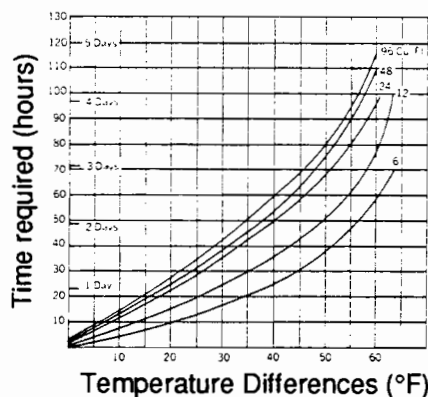

Figure 1-2. Paper Temperature Equalizing
- If there is a significant temperature difference between the paper storage area and the printer's operating environment, paper should be allowed to adjust to the temperature in the printer's operating environment before being unwrapped. The greater the temperature difference and the greater the volume of paper, the longer this time period should be. Figure 1-2 gives some guidelines for the amount of time required for a specific amount of paper to change temperature.